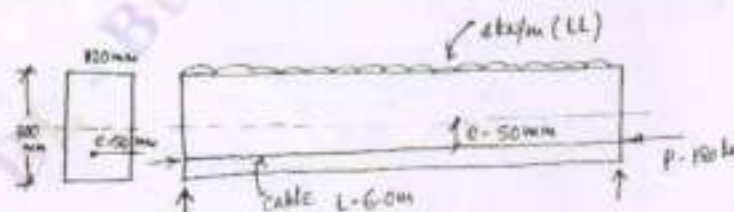

Fig.Q4(b)
- b. A PSC beam of Rectangular section is shown in Fig.Q4(b). The cable is straight with eccentricity 50mm. $E_c = 36 \text{ kN/mm}^2$. LL on beam is 4 kN/m. Find the deflection due to prestress, self weight and LL; Take creep coefficient 1.8. Find also long term deflection.